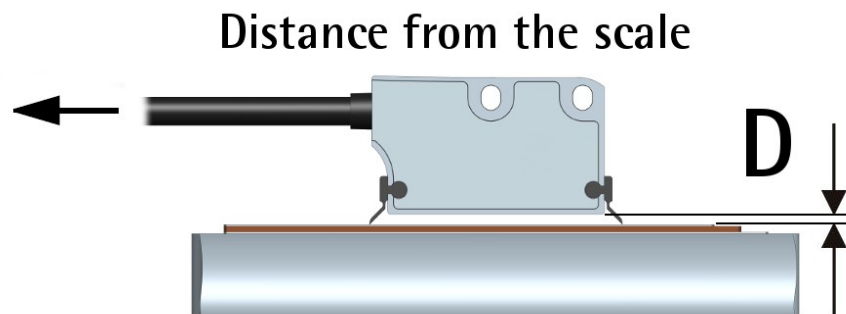
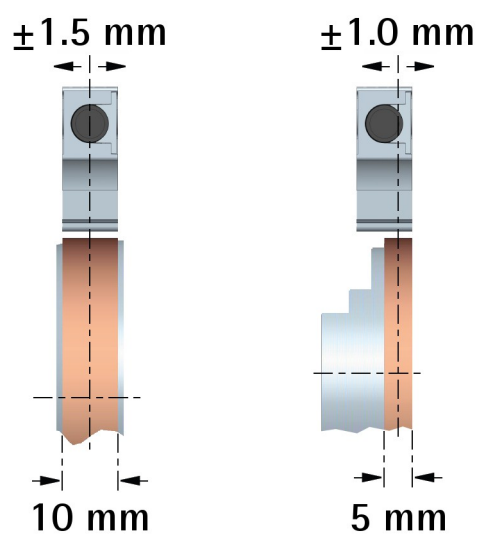
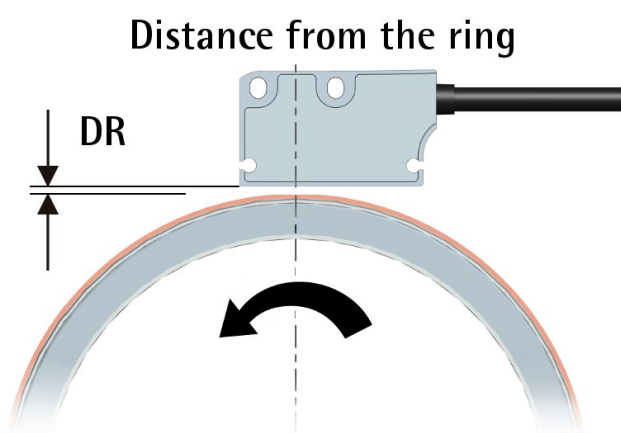

Figure 1 - Encoder / tape mounting gap
Figure 5 - Sensor / ring alignment
Figure 6 - Sensor / ring mounting gap
You can mount the readhead in both directions over the tape. The arrow in Figure 1 indicates the **standard counting direction** (the rising edge of A signal leads the rising edge of B signal) when the sensor moves in the direction indicated by the arrow; further information in the "4.6 Counting direction" section on page 25.
**The distance D (see Figure 1) between the bottom of the encoder and the MTI magnetic scale must be as follows:**
When the sensor is installed on magnetic rings having a 10 mm / 0.4" wide magnetic surface, line up both the sensor and the ring on the central axis. When magnetic rings having a 5 mm / 0.2" wide magnetic surface are used, line up the sensor and the ring as shown in Figure 5; please consider that the incremental sensor is located laterally in the sensing head. With 5 mm rings the mounting direction of the ring makes no difference (but ascertain that the sensor is properly aligned on the correct side!).
To learn about the mounting tolerances refer to the tables below as well as to Figure 2, Figure 5 and Figure 6.
The positive counting direction (the rising edge of A signal leads the rising edge of B signal) is achieved when the sensor moves on the tape according to the arrow shown in Figure 1; or when the ring turns according to the arrow shown in Figure 6. For further information see the "4.6 Counting direction" section on page 25.
### 3.11 Optional cleaning wipers (Figure 1)
The **standard counting direction** (the channel A leads the channel B) is to be intended with sensor moving as shown in Figure 1 in a linear application; with ring turning as indicated by the arrow in Figure 6 in a rotary application.
By default the phase relationship between A and B channels is so that the rising edge of A channel leads the rising edge of B channel when the encoder moves in the direction shown by the arrow in Figure 1 in a linear application; or when the ring turns as indicated by the arrow in Figure 6 in a rotary application (see the "4.5 ABO, /ABO output channels" section on page 23). Thus the counter in the subsequent electronics will get a count up. It cannot be changed.